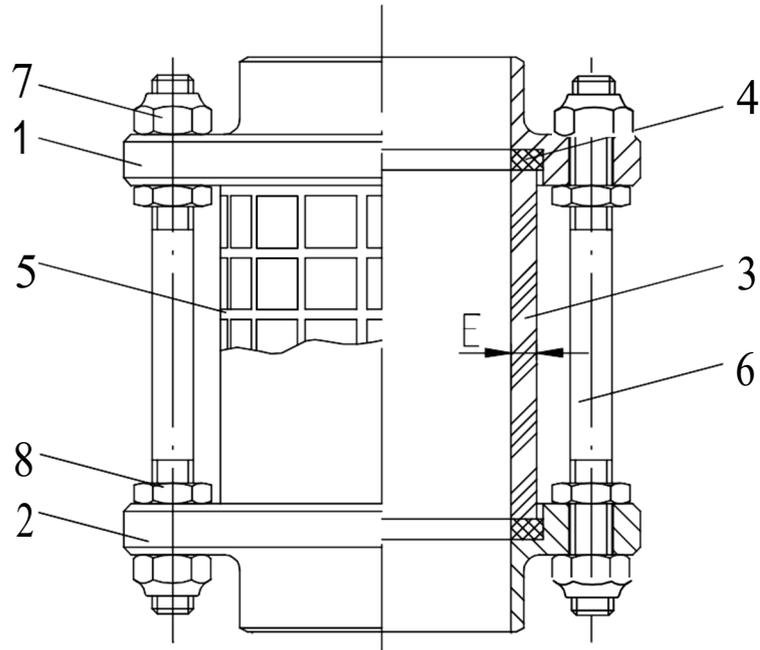

Figure 1 Sectional view of cylinder sight glass DIN SS (example)
- Cylinder sight glasses with welded connections (cf. Fig.3-4 page 11) must be disassembled before assembly. During disassembly make sure to loosen the hexagon nuts (7) carefully and crosswise. After disassembly of the cylinder sight glasses, weld the connection sockets (1,2) to the provided pipe ends (cf. Fig.1 page 6).
- Before assembly of the cylinder sight glass, align the pipe ends with the welded connection sockets plan and centered to each other. Only this ensures tension- free installation. When inserting the glass cylinder (3), make sure that it is aligned centrally to the receptacle. Avoid contact between glass and socket by all means. Tighten the hexagon nuts (7) carefully and crosswise. Finally lock the hexagon nuts (7) with the flat hexagon nuts (8).